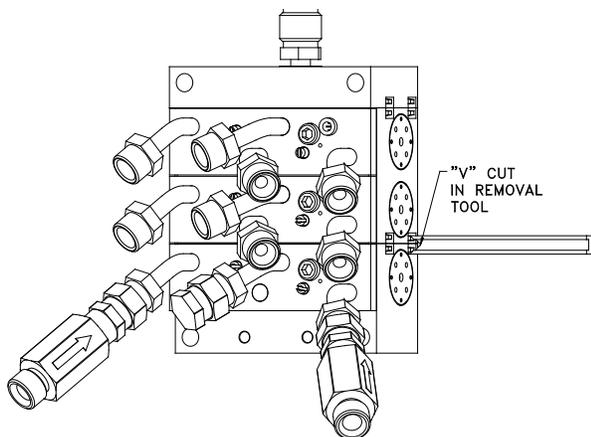

Figure 9: Slice Removal
2. Using the clip removal tool (78078-00), push on the installed locking clip with the "V" cut as shown in Figure 9.